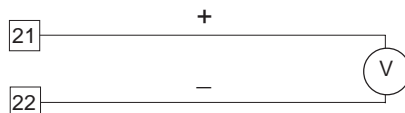

Fig. 5.7
- a) Connect the instrument as shown in Fig. 5.7.